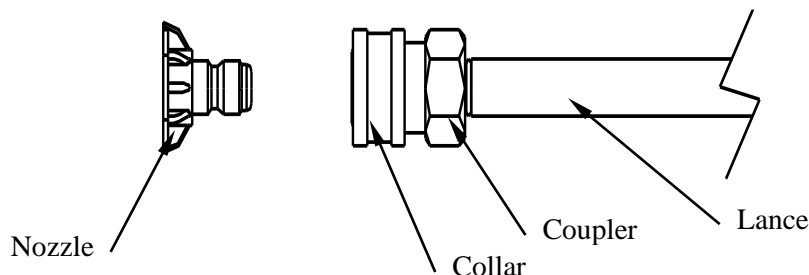

Figure 9a
2. To install the nozzle, pull the collar back and twist the nozzle firmly into the coupler on the end of the wand. (Figure 9a)